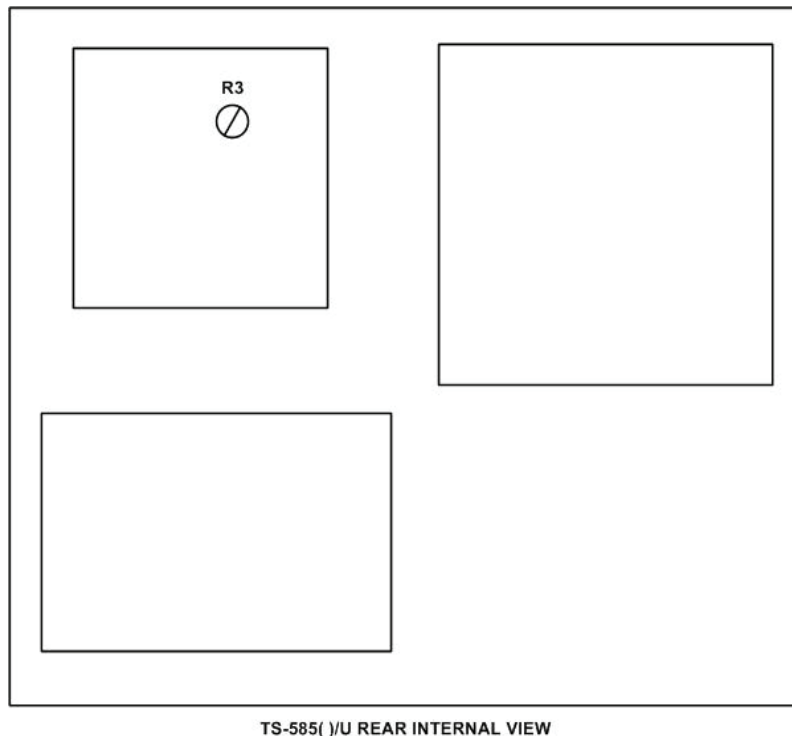

Figure 2. Adjustment location.
(1) Adjust calibrator for 224.06 V.
- (2) Adjust R3 (fig. 2) for a full-scale (50) indication on TI (R).